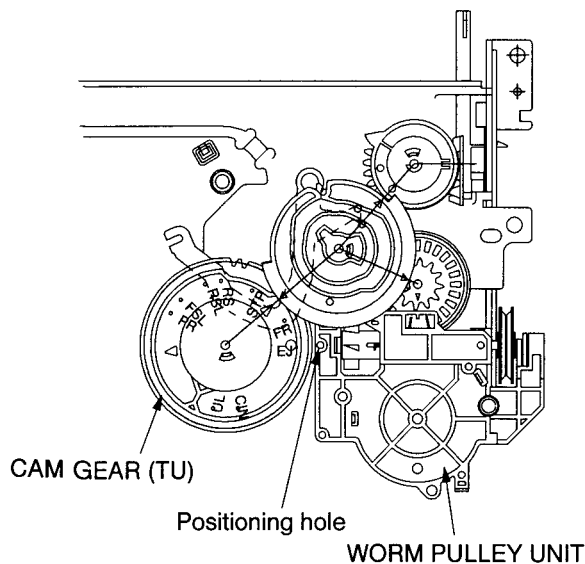

Fig. 4
1. Press the CH-U/REC or CH-D/O.K.PROG button to align the character "PR" or "FR" of the CAM GEAR (TU) with the positioning hole of the WORM PULLEY UNIT shown in Fig. 4.